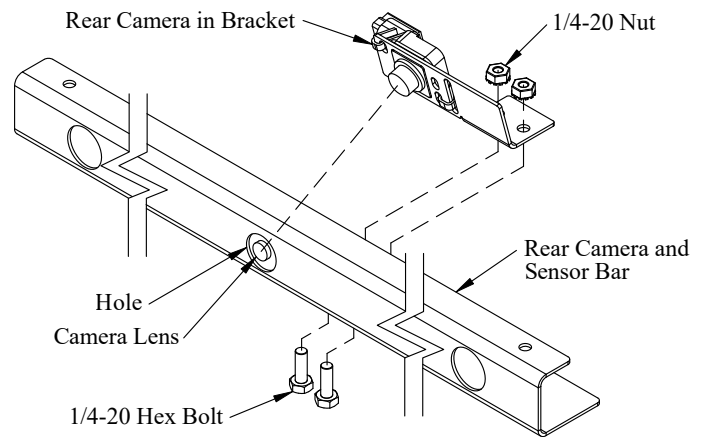

Figure 7: Rear camera installation (Ford shown, others similar).
10. Install rear camera with bracket into rear camera and sensor bar using the supplied 1/4"-20 hex bolts and nuts (Figure 7).